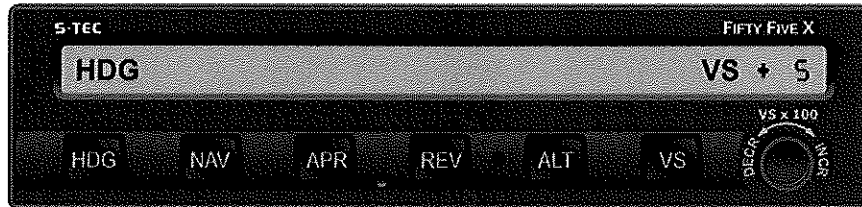

Fig. 3-12. AP Display, HDG and VS Modes Engaged
The vertical speed mode can only be engaged if a roll mode (HDG, NAV, NAV APR, REV, REV APR, NAV GPSS) is already engaged. With a roll mode engaged and the aircraft at the desired vertical speed, press the VS mode selector switch to engage the vertical speed mode. The VS annunciation will appear as shown in Fig. 3-12, to acknowledge that this mode is engaged, along with the current vertical speed. The latter appears as a number in units of FPM x 100, prefixed by either a "+" to indicate a climb, or a "-" to indicate a descent (i.e., for example, +5 indicates 500 FPM climbing, if within the aircraft's capabilities). The autopilot will hold the aircraft at its current (captured) vertical speed. This vertical speed may be modified by rotating the Modifier Knob. In a climb, rotating the Modifier Knob clockwise (CW) increases the climb rate, whereas rotating it counter-clockwise (CCW) decreases the climb rate. In a descent, rotating the Modifier Knob CCW increases the descent rate, whereas rotating it CW decreases the descent rate. Each detent equals 100 FPM, and the range is ± 1600 FPM from the original captured vertical speed.